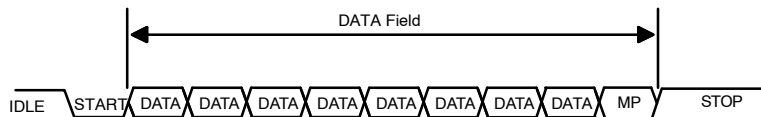

Figure 37. UART MP Data Frame
- Using 9 data field, with the ninth bit as address/data flag (MP bit). When set high, it indicates an address byte; when set low it indicates a data byte. A data frame is illustrated in Figure 37.